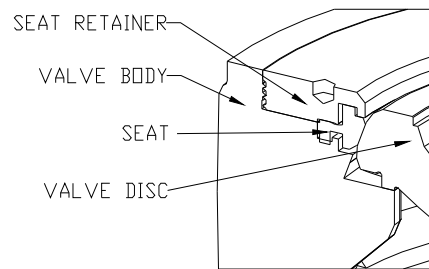

Fig.17
- 12.1.5 Insert the seat retainer to the mounting groove for the seat retainer. Due to the same reason as 12.1.4, the seat and the seat retainer is somewhat floating. (Fig.17)